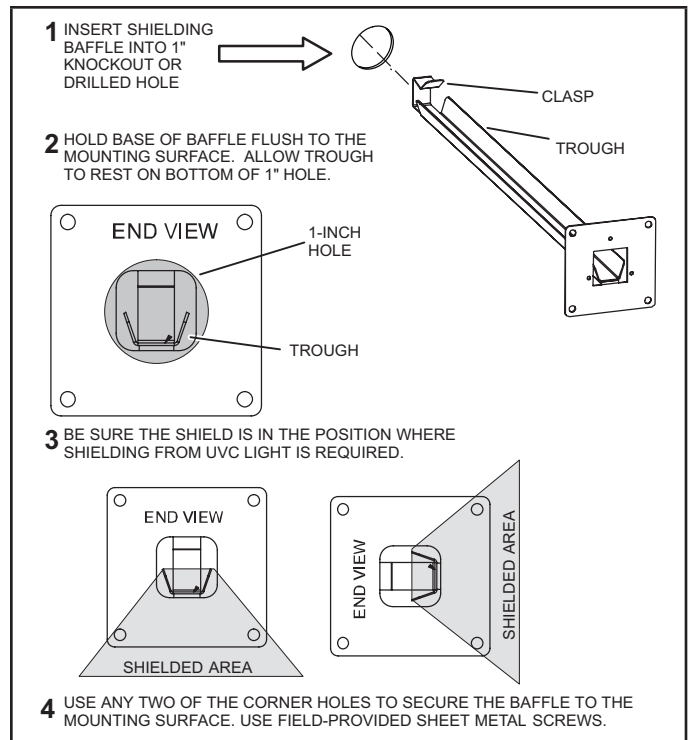

FIGURE 6. Install the Shielding Baffle
- 2 - **Skip this step if no shielding baffle is required.** When using a shielding baffle (Y5171), it must be installed in the 1" hole prior to continuing this procedure. See the procedure described in figure 6.
Install the lamp shielding baffle when installing light above a non-UVC resistant component, such as a filter. Adjust the baffle to ensure the component is not subject to direct UVC light. Install the shielding baffle (ordered separately) as shown in figure 6.
Shielding baffle has been installed to protect filter or other non-UVC resistant components (see figure 6).